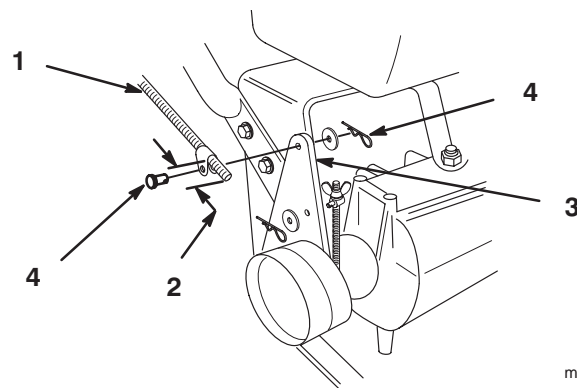

**Figure 6**
1. Route wires around J-clip on engine, and plug in clutch and engine in-line wire connectors (Fig. 6).
2. Secure ground wire to one of three holes in frame, at rear of engine, with self-tapping screw and star washer (Fig. 6).
3. Secure wire harness and throttle to upper handle with cable tie (Fig. 6)